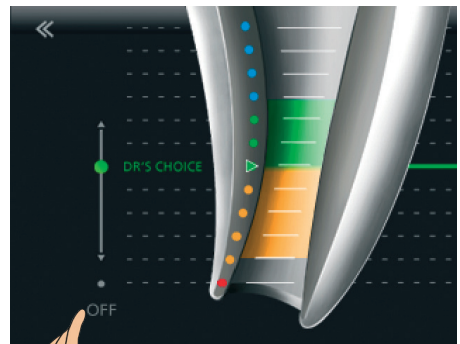

Fig. 26 Tap OFF
- To cancel the DR'S CHOICE working length line return to the Settings Menu, select DR'S CHOICE and tap OFF (Fig. 26).